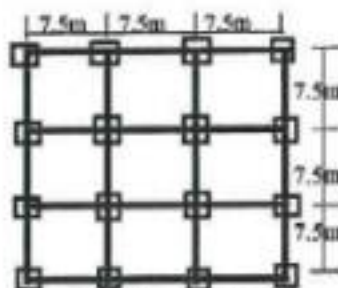

Fig.1 Q3-Plan of Building
- Q3) A four storied square RC framed residential building as shown in Fig.1 with** [14]
- live load 4kN/m^2 is to be constructed on hard soil strata in zone V. Determine the seismic forces on the structure by seismic coefficient method using IS 1893 part (I). All beams and columns size $300\text{mm} \times 450\text{ mm}$. Thickness of roof and floor slab 120 mm , Wall is of 230 mm thick all around. Height of each floor is 3m . Density of concrete 25kN/m^3 and masonry 20kN/m^3 . Assume 5% damping